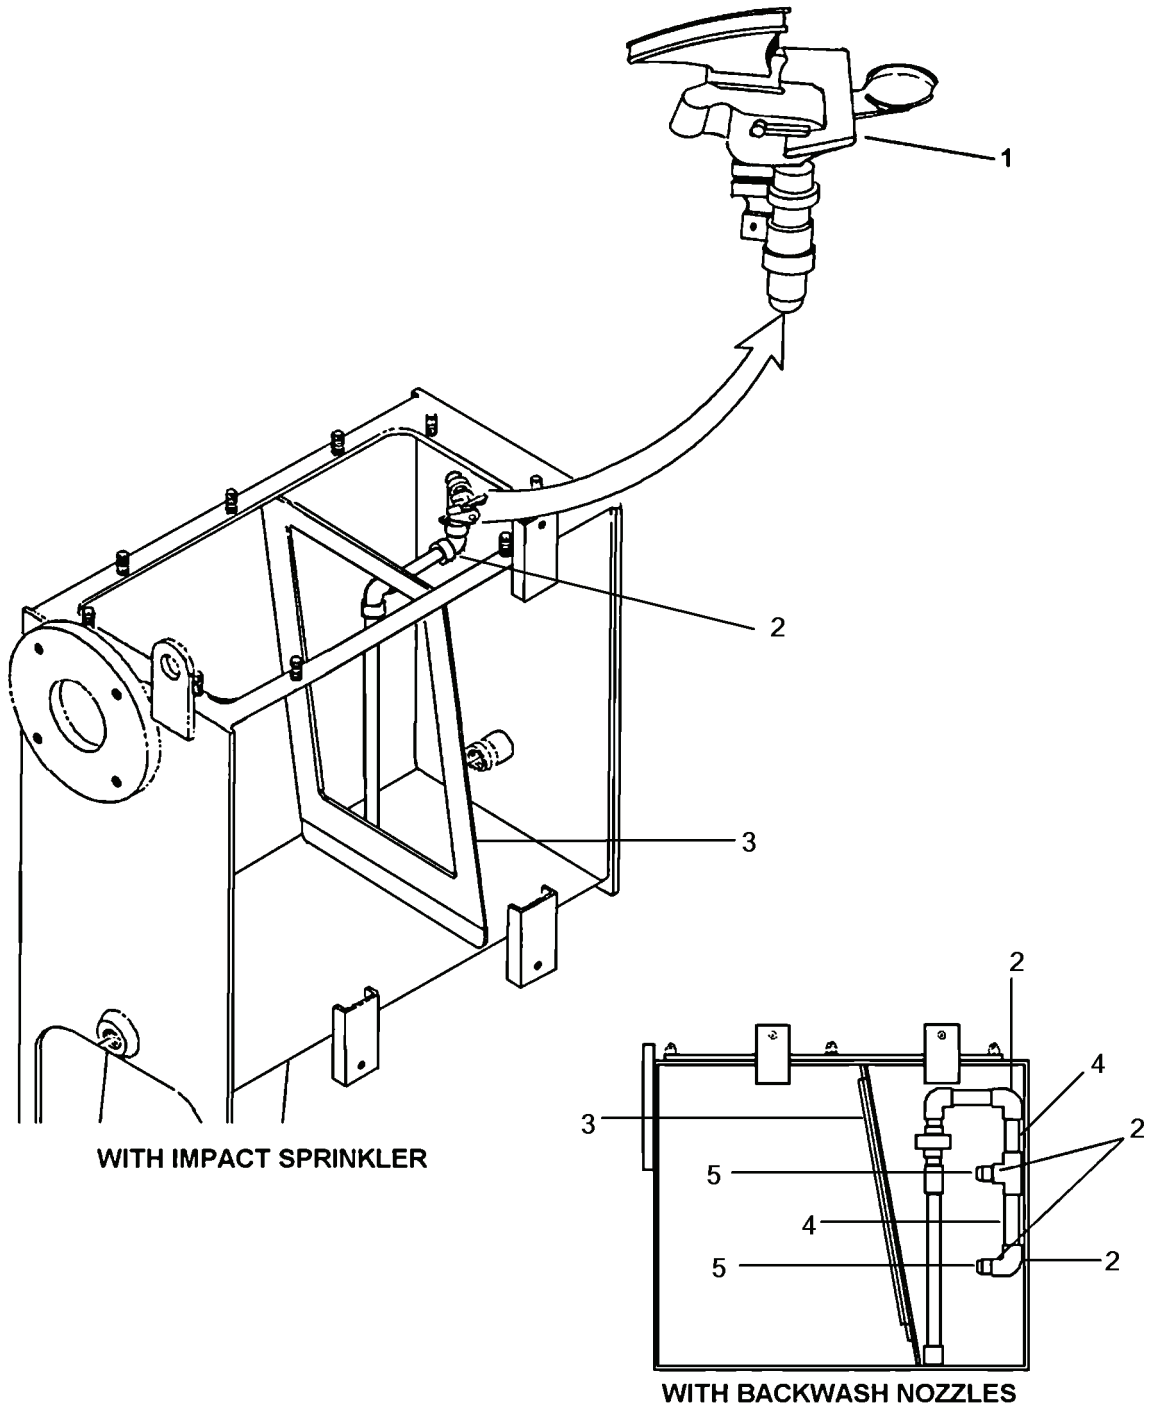

Figure 2-24. Impact Sprinkler/Backwash Nozzles (Inside Treatment Tank).
**2-21. Impact Sprinkler/Backwash Nozzles. (Figure 2-24)**
The sprinkler head (1, Figure 2-24) is located inside the treatment tank.